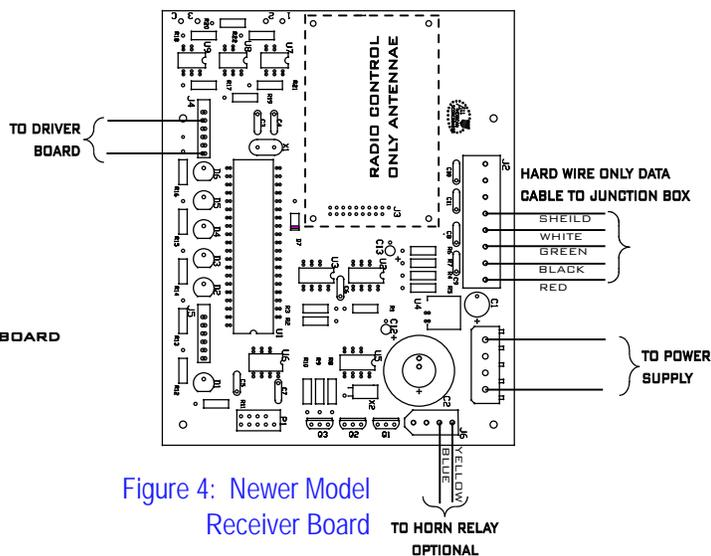

Figure 4: Newer Model
Every Scoreboard has one Receiver Circuit Board. There are two basic configurations of Receiver Boards (See Figures 4 and 5).
STEP 4: Examine the condition and familiarize yourself with the existing, installed Display Driver Circuit Board and connectors (See Figure 4).